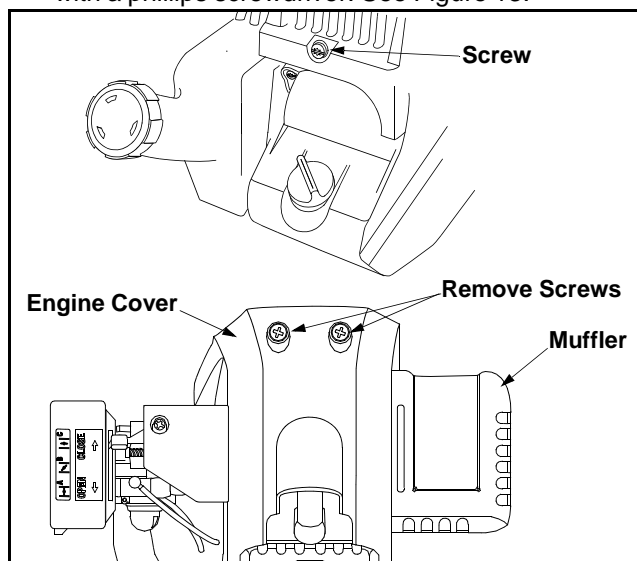

Figure 13
- Remove the two screws on top of the engine cover with a phillips screwdriver. See Figure 13.
- Remove the screw on back of the engine cover. See Figure 13.